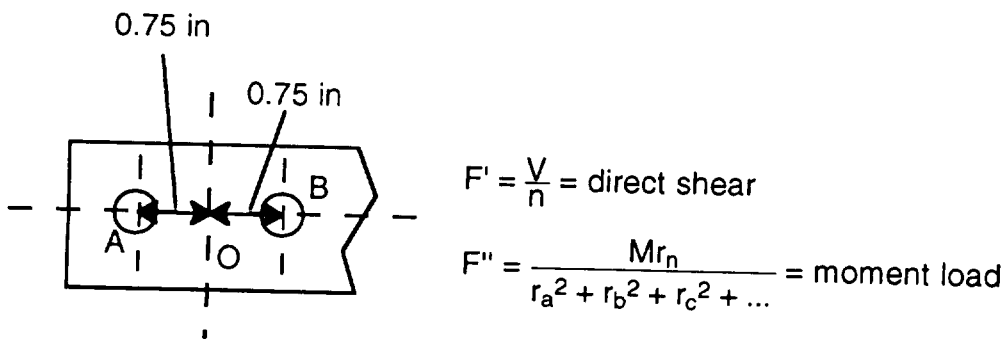

Figure 3 -- Bolt Group Dimensions
(2) Next, let's look at the two bolts that connect the overhanging conveyor section to the main conveyor line. The bolt group consists of two 1/4"x20 bolts, located on the centerline of the conveyor section as shown in blown-up picture of the bolt group in Figure 3. Assume that the bolt has the same material properties as the conveyor belt (see c (1))